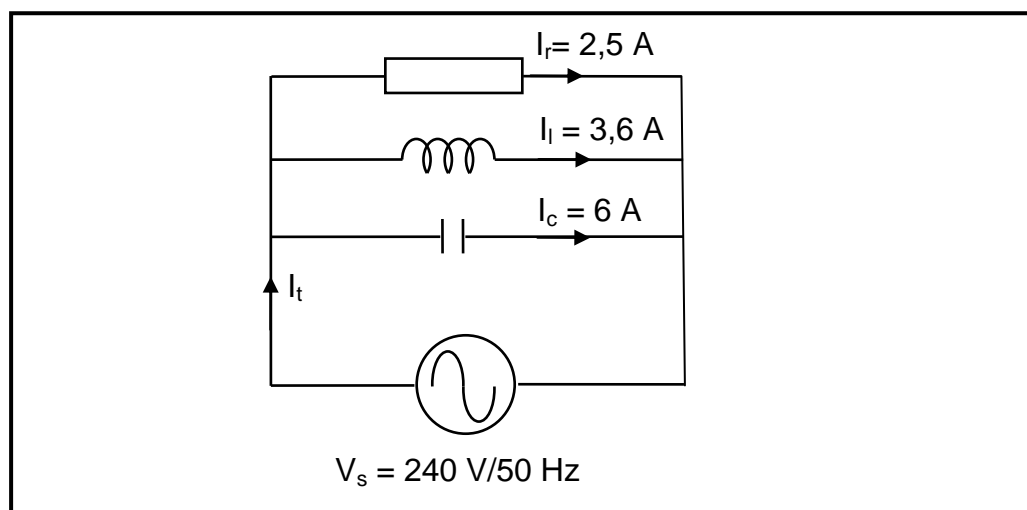

FIGURE 5.1: PARALLEL RLC CIRCUIT
- 5.3 Refer to the circuit diagram in FIGURE 5.1 and answer the questions that follow.